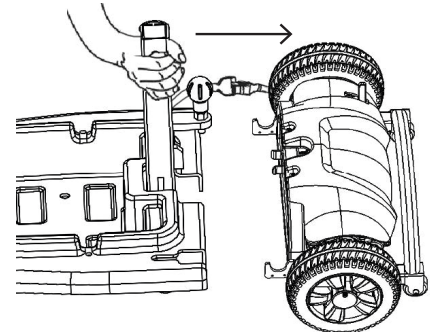

Fig 6.4
2. Connect the front and rear sections by aligning them and gently lifting the front section and the rear section. (See Fig 6.4)